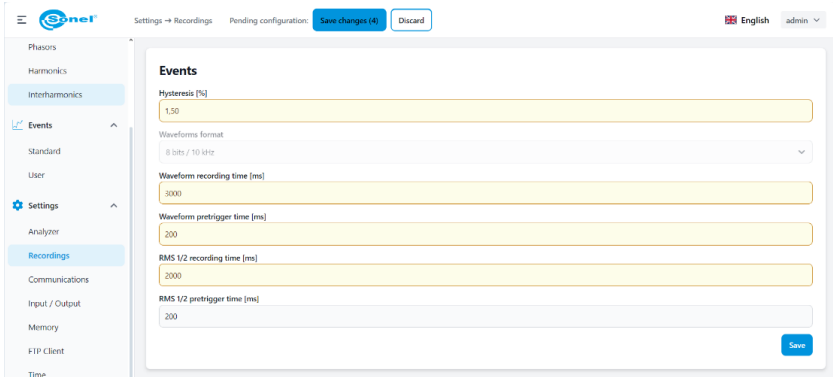

Fig. 5. Entering changes in settings
- After making changes to the settings, click **SAVE**. The changes made will be marked in a different color. The top bar will display additional buttons **SAVE CHANGES** and **DISCARD** with the caption **PENDING CONFIGURATION** (Fig. 5).